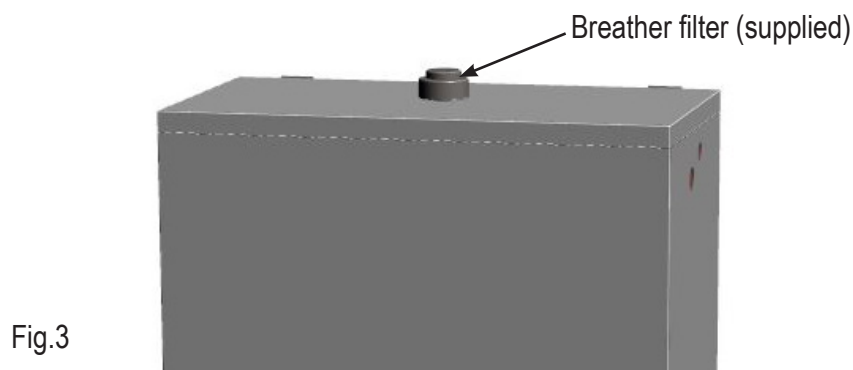

Fig.3
- The filter and breather assembly is a push snap-fit connection and should be fitted to the lid in the aperture shown in Fig.3.